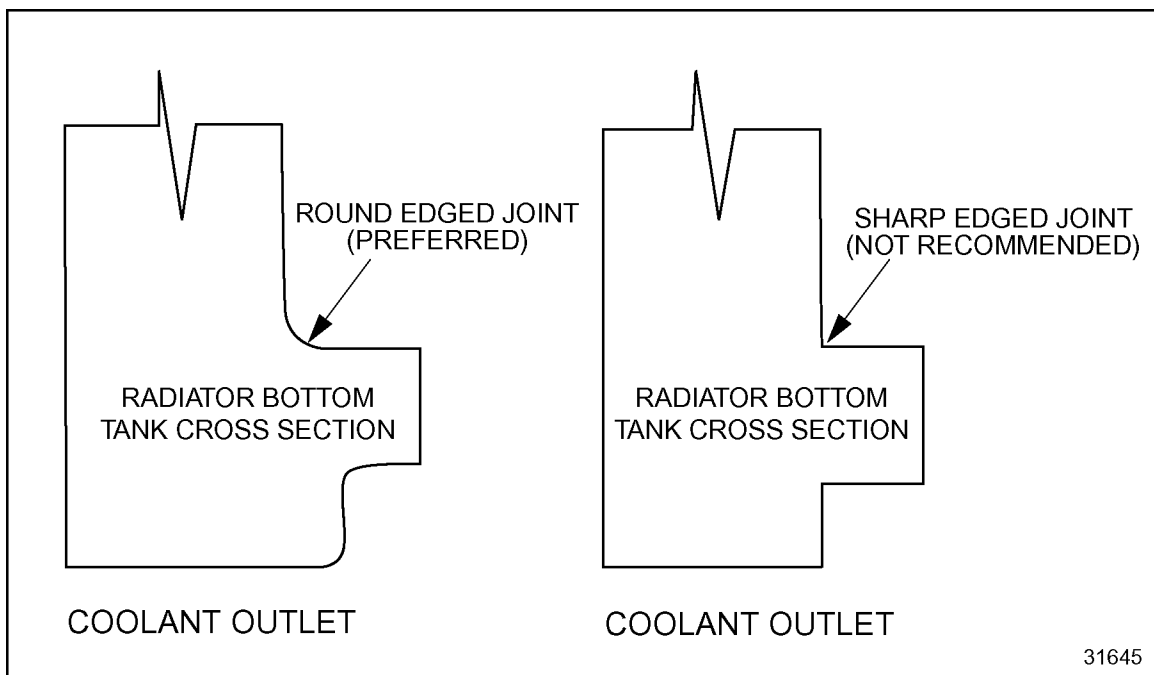

Figure 7-16 Radiator Outlet Contour
- ☐ A well rounded coolant outlet exit area is preferred, see Figure 7-16, to minimize restriction and aeration.